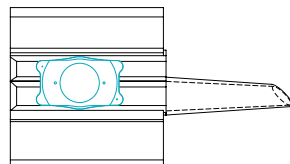

Figure 5
5. With the cartridge held in one hand and the forceps holding the ICL in the other, place the ICL in the loading chamber (Figure 5). The cartridge is equipped with grooves under guide rails on opposite ends. This allows rapid and precise loading of the lens.